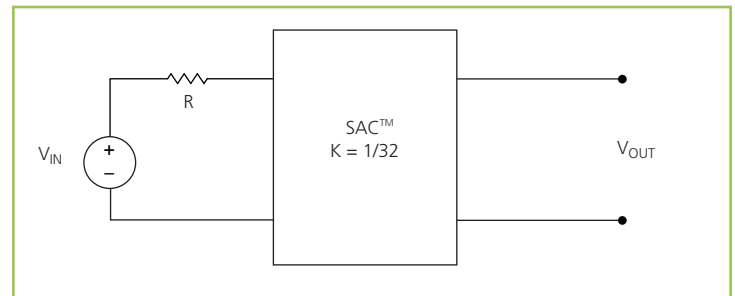

Figure 15 – K = 1/32 Sine Amplitude Converter with series input resistor
interesting attributes. Assuming that R_{OUT} = 0 Ω and I_Q = 0 A, Eq. (3) now becomes Eq. (1) and is essentially load independent, resistor R is now placed in series with V_{IN} as shown in Figure 15.
Assuming that $R = 1 \Omega$, the effective R as seen from the secondary side is $0.98 \text{ m}\Omega$, with $K = 1/32$ as shown in Figure 15.